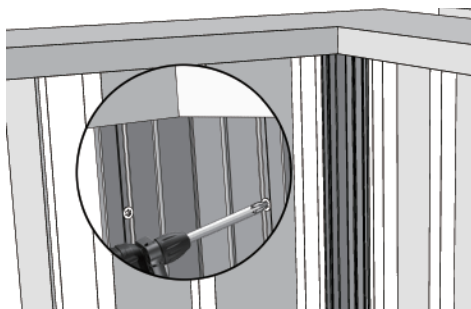

Fig2-1
1. Install HLYC-016F from the internal corner of the wall at node b. As shown in Figures 2-1 and 2-2: